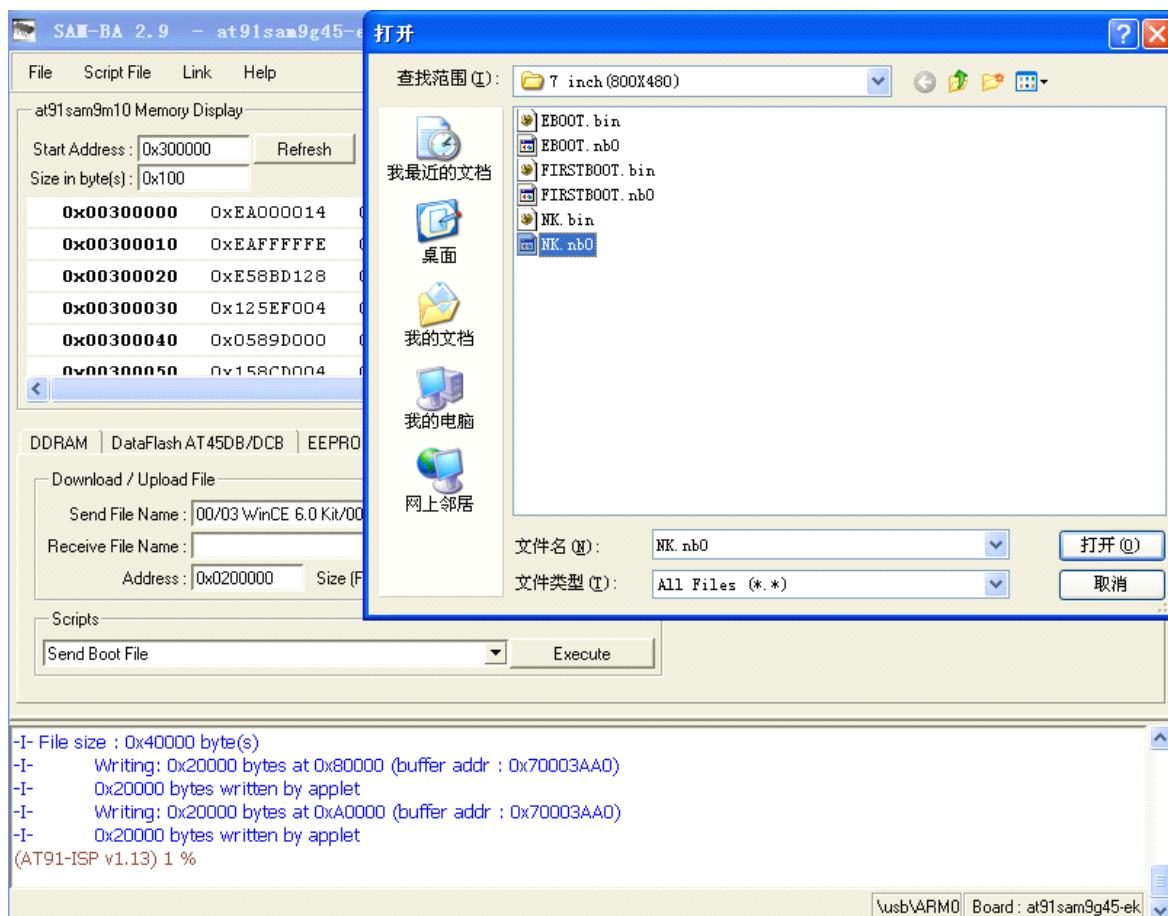
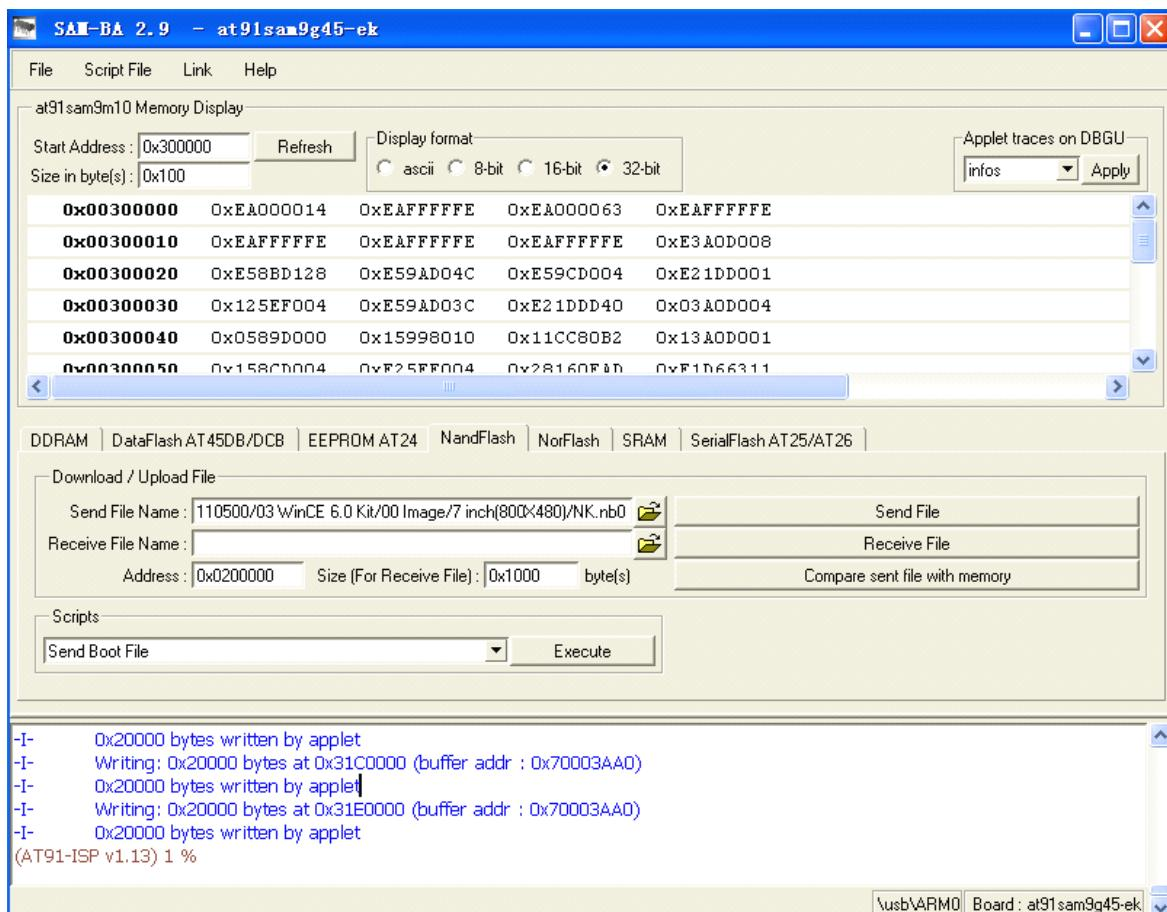

Figure 12.2.10
Figure 12.2.11
- As shown in Figure 12.2.10, enter the address 0x000200000 in the Address: field in Download/Upload File of SAM-BA v2.9, select SBC6045 CD \03 WinCE 6.0 Kit\00 Image \NK.nb0 file in the text box Send File Name:, then click Send File button in Download/Upload File of SAM-BA v2.9, SAM-BA v2.9 will start burning NK.nb0 file to the beginning of 0x000200000 address of NAND flash on SBC6045 board. After the burning is successful, the interface as shown in Figure 12.2.11 will appear: (it takes 3-10 minutes to burn NK.nb0 file.) .